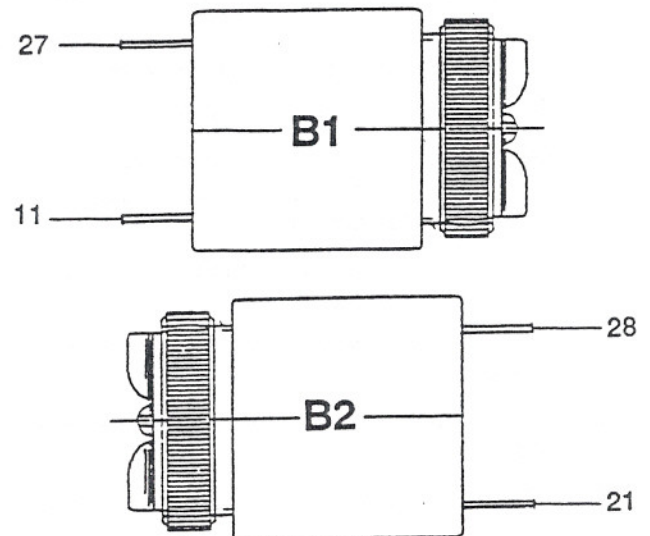

Figure 7-6. Audio Alarm Buzzer
2. Note the orientation of two terminals connected to backside of buzzer (Figure 7-6), then remove.